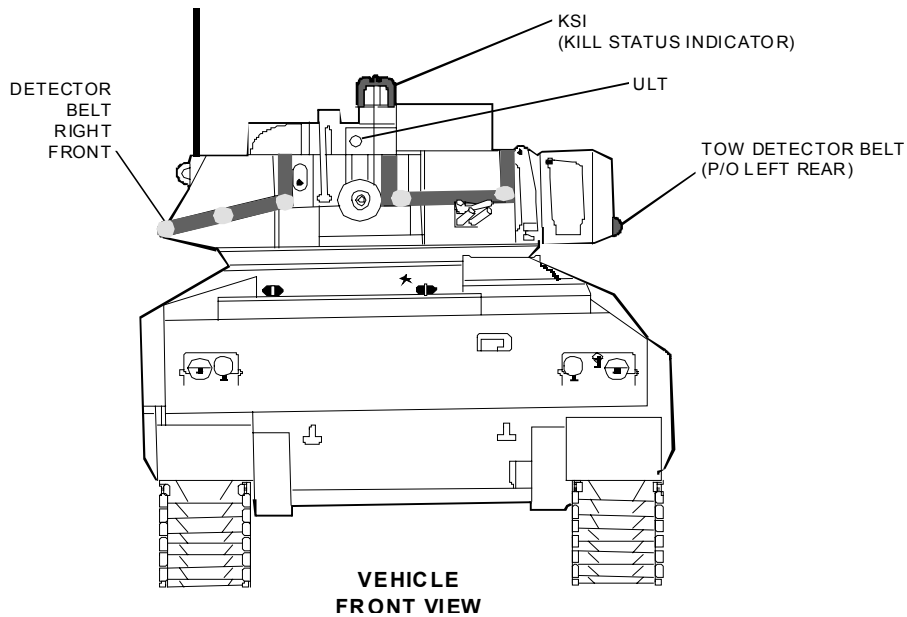

Figure 2-17. M2/M3 Front View Detector Belt
- c. The detector belt labeled **Right/Front** starts at the top left corner of the main gun with the connector (P4) attached at that location (Figures 2-17). The belt is then routed down the front of the turret to the right, then up and around the mantle all the way to the right of the coax machine gun. At that point, the belt is routed down to the lower edge of the turret, around the right side, ending up at the rear of the turret.